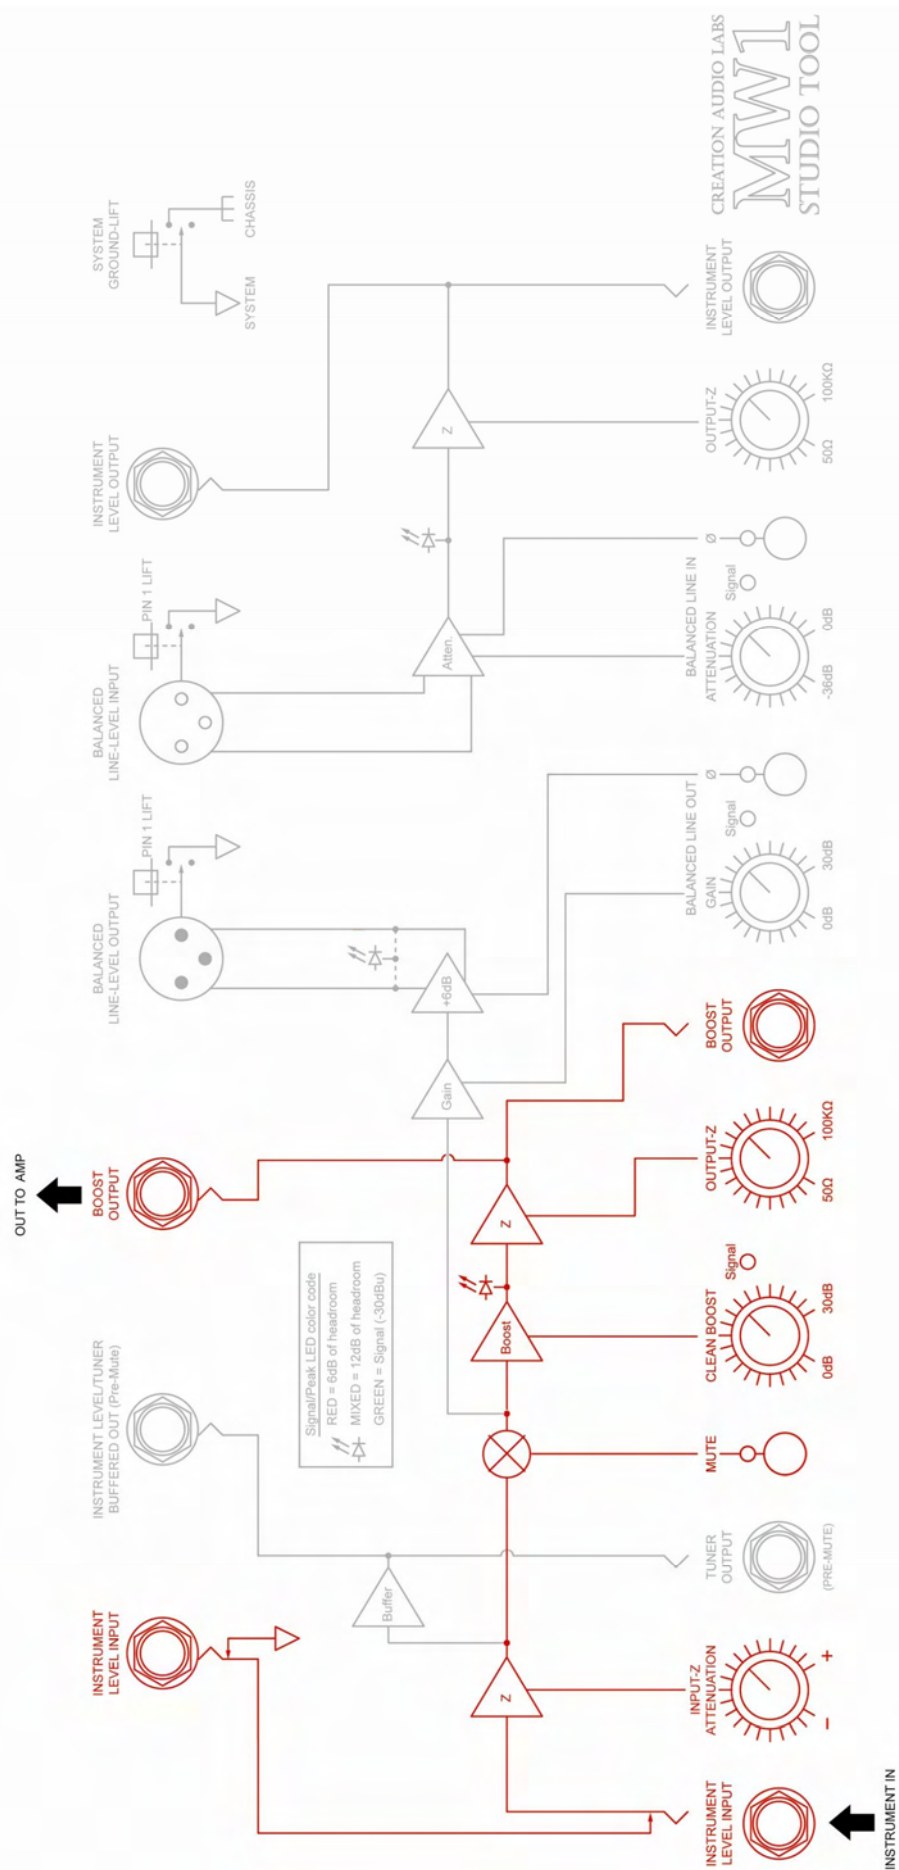

FIG. 2
- 0 – 30dB of pure clean boost. (FIG. 2)